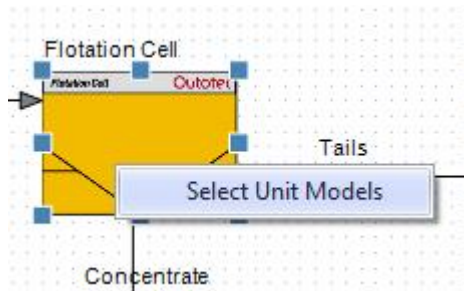

Fig. 42. Selecting a unit model for a unit.
- ✓ Right-clicking the unit (**Fig. 42**)